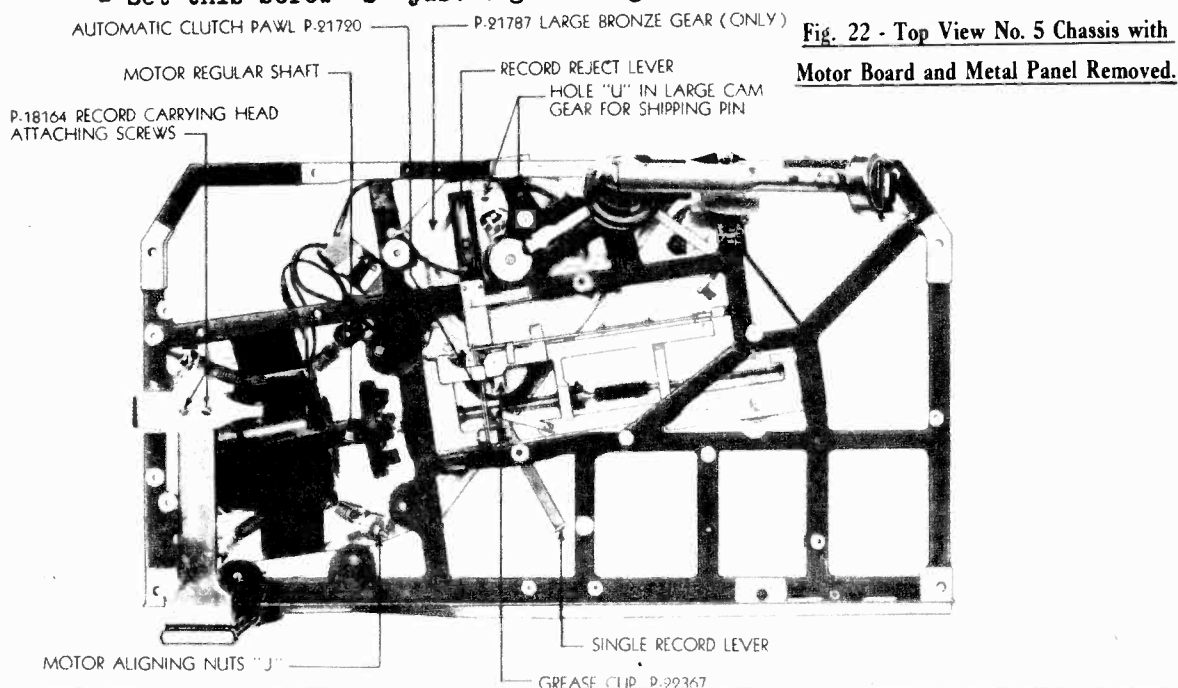
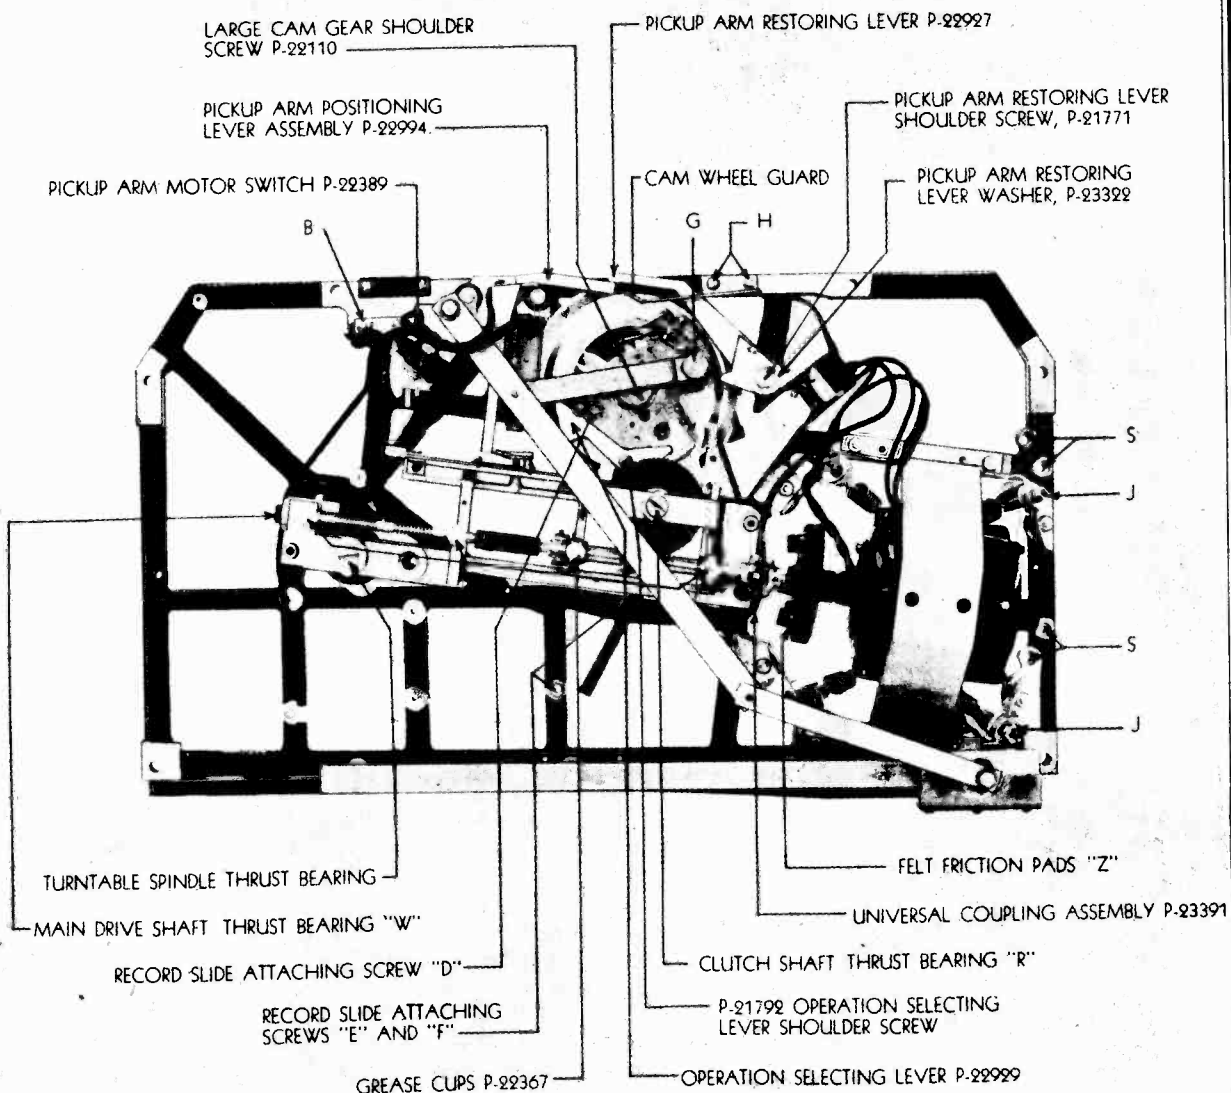

Fig. 22 - Top View No. 5 Chassis with Motor Board and Metal Panel Removed.
Fig. 28 - Bottom View of No. 5 Chassis.
- (i) If the servicing operations require accessibility to the top mechanisms, as shown in Fig. 22, it will be necessary to remove the walnut finished motor board and brown enamel finished metal plate as described in Sections 24 and 25.
- (2) P-16164 Retaining Screws, Fig. 22, in record shifting head, loose.
- Adjust clutch shaft thrust bearing screw "R" Fig. 28, located at bottom of clutch shaft, just enough to remove excess end play but not enough to cause binding.
- (a) Felt pads on governor "Z", Fig. 28, are dry.
- Adjust main drive shaft thrust bearing "W" Fig. 28 to allow free rotation without noticeable end play of shaft.
- (a) Pickup Arm Switch, Fig. 28, is loose in switch bracket, or the switch bracket is loose on the chassis.
- Cam wheel guard, Fig. 28 not set closely against edge of cam surface.
- Loosen two screws "H" Fig. 28, fastening this guard to the chassis frame and adjust position of guard so as to come within 1/16 inch from cam surface, then retighten screws.
- Test for freedom of movement of slide block on slide rail by disconnecting "Cam Wheel Link", Fig. 3, at large cam wheel (remove hexagonal shoulder "C" Fig. 28) and then moving the record carrying arm back and fourth the full length of the slide rail by hand. Correct any binding that may be found. (See Section 29 for lubrication of slide).
Take out the four screws marked "S", Fig. 28, which fasten record stops (See Fig. 1) to metal chassis frame. Remove "Motor Regulator Knob", Fig. 1, by pulling off end of shaft. Remove needle cap and swing "Single Record" lever to "Automatic" position. Now lift motor board just high enough to clear the top of "motor regulator" shaft, Fig. 22, and slide motor board to the right, out from under the record slides, Fig. 1.
Remove the turntable, Fig. 1, by lifting it directly up. Take out the nine round head screws showing on top of metal plate. There are three screws attaching the record slides, Fig. 1, to the chassis, which must be removed. Two are visible on the under side of the chassis frame at points "R" and "S" Fig. 28 and the third is under the large gear at position "D" Fig. 28. Turn the large gear around until the large slot in it is under this screw, which now can be removed. Metal panel now will lift off by raising it up over the turntable spindle.
Tenth, set up tight all eight jam nuts on the motor adjusting screws "J", Figs. 22 and 28, to retain the new adjustments just made. Also, be sure that all set screws in Universal Coupling, Fig. 28, are set tight.